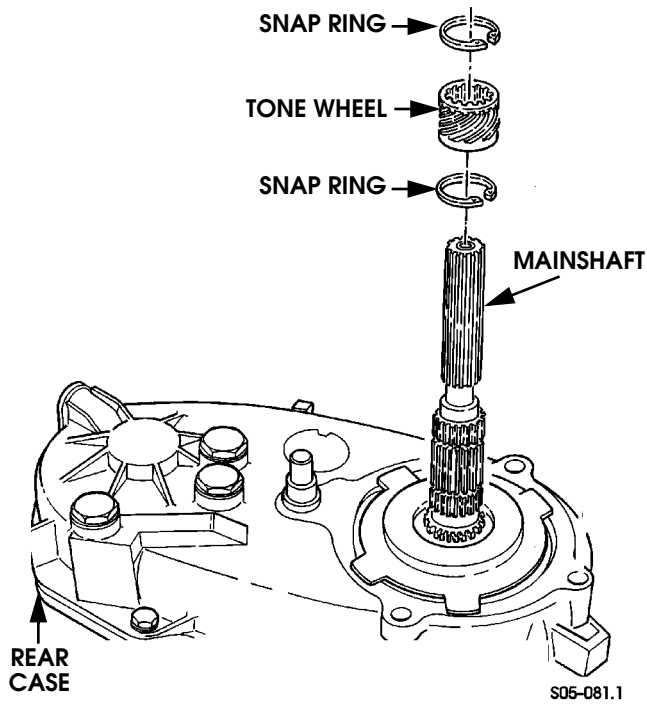

Figure 5-89: Speedometer Tone Wheel Removal/Installation
7. Remove speedometer tone wheel and snap rings (Figure 5-89).